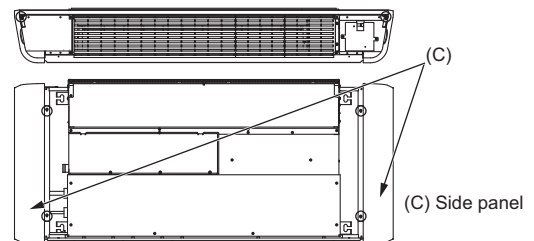

Fig.4
4. Unscrew the six screws holding the side panel. (Fig.4)